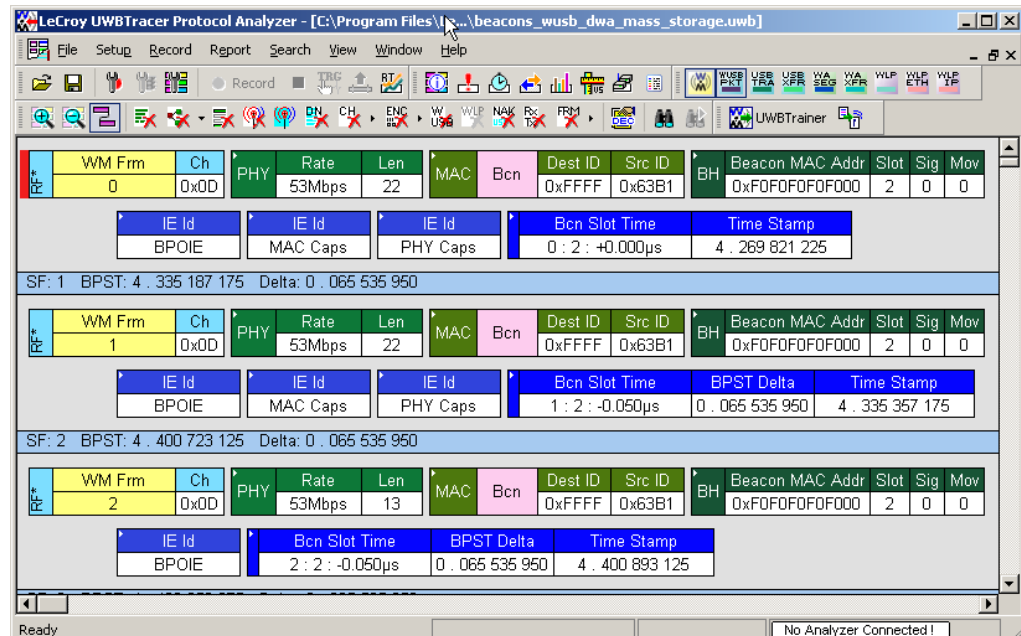

Figure 3.1 UWBTracer/Trainer Main Window
- Step 1** Select **Start > Programs > LeCroy > UWBTracer > LeCroy UWBTracer** to display the application main window (Figure 3.1).